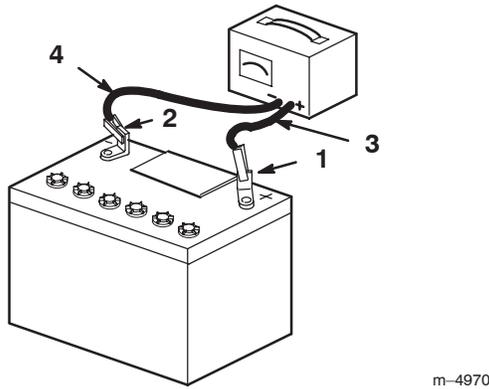

Figure 98
- When the battery is fully charged, unplug the charger from the electrical outlet, then disconnect the charger leads from the battery posts (Fig. 98).